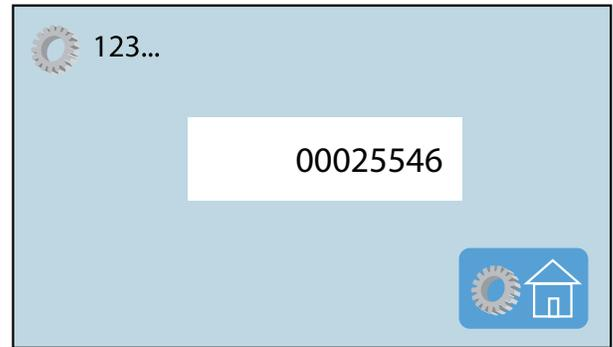

Fig. 57
2. The lifecount will be displayed (Fig. 57).